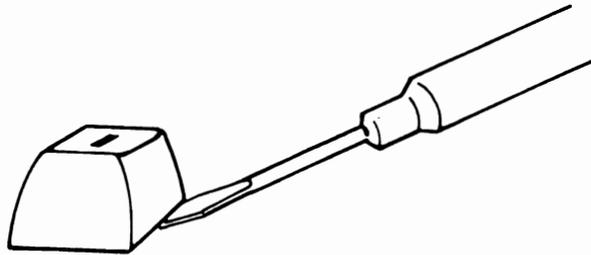
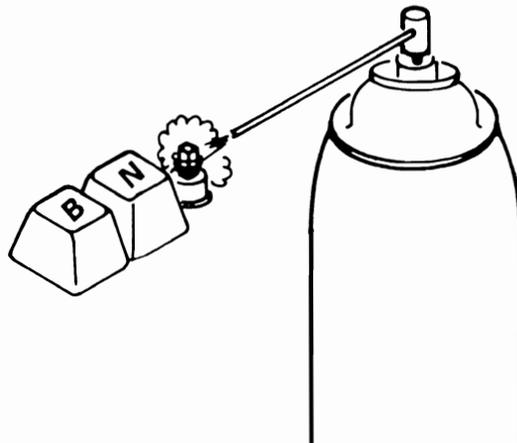

Fig. 2-7. Removing a key.
Fig. 2-8. Spraying contact cleaner on the key post.
- If the key does not work, use a flatblade screwdriver, or better yet, a key removal tool, to lift the key from the keyboard (Fig. 2-7). Spray contact cleaner on the key post (Fig. 2-8). Contact cleaner is available at electronics stores. Replace the keycap on the post and try it again. If the key still does not work, the keyboard might have a more serious problem; take it in for servicing.